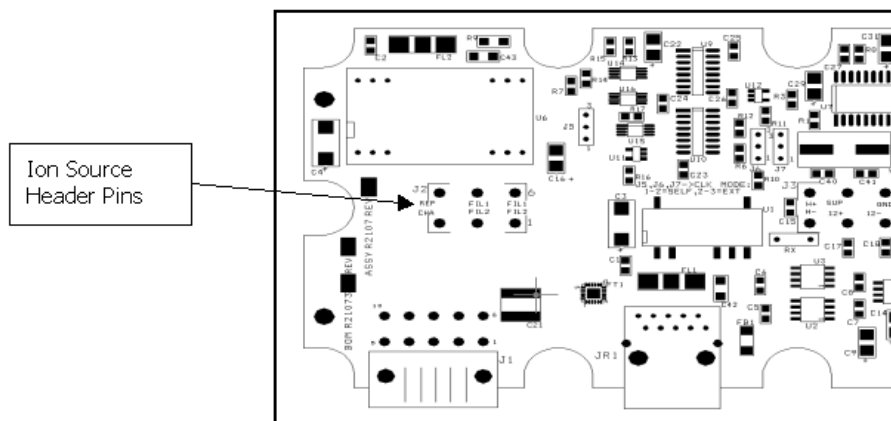

Figure 11: Ion Source Header Pin Schematic
27. On the PCB, use the resistance meter to verify an open circuit between any two of the six ion source header pins (except FIL-1 to FIL-1 and FIL-2 to FIL-2 which should be 0.3 Ohms or less). Also verify an open circuit between the body of the spectrometer and any of the ion source header pins (Figure 11: Ion Source Header Pin Schematic). If there is continuity (short circuit) at any of the points, remove the header and inspect for shorting.